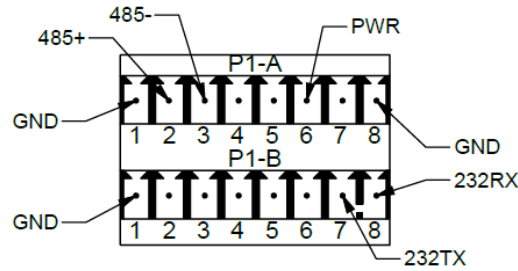

Figure 39: Dual Connector Pinout at P1-A and P1-B
- P1a/b – Serial ports (see Figure 39)